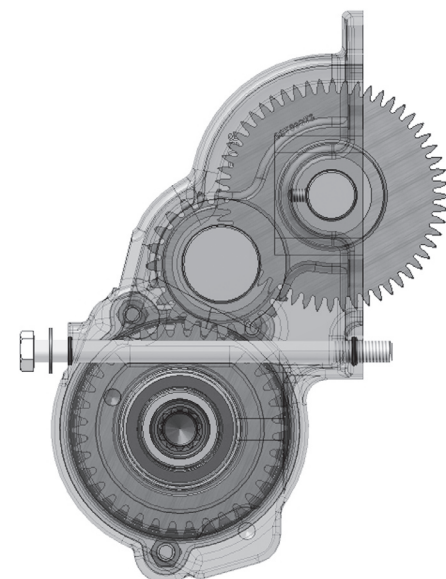

Figure 5. Cross-section of PTO with thru-bolt installed.
4. Insert the capscrew into the PTO housing and through the hole and o-ring in the PTO mounting pad. Place the PTO up onto the transmission opening while aligning the (2) larger mounting holes over the (2) shoulder studs. Screw the long hex head capscrew into the bottom mounting hole in the transmission pad. (See Figure 5)
5. Hold the PTO in position and install the (3) whiz-lock nuts onto the (3) step studs. Next, position and install the (2) spirallock nuts onto the (2) shoulder studs. Tighten the (3) whiz-lock nuts for the step studs to 17 ft. lb. and the (2) spirallock nuts for the shoulder studs to 40 ft.lb.